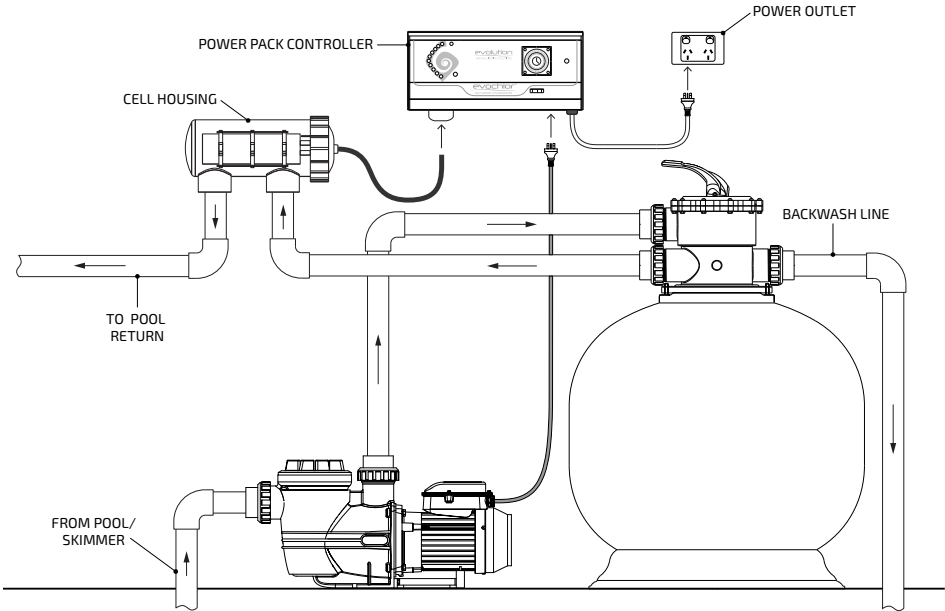

Fig. 1
- 3.1 The electrolytic cell housing must be plumbed into the return line after the filter. Please refer to the installation diagram, Fig.1, below for the preferred method. The cell housing has allocations for either 40mm PVC pipe or 50mm PVC pipe with the use of the supplied PVC reducing bushes.